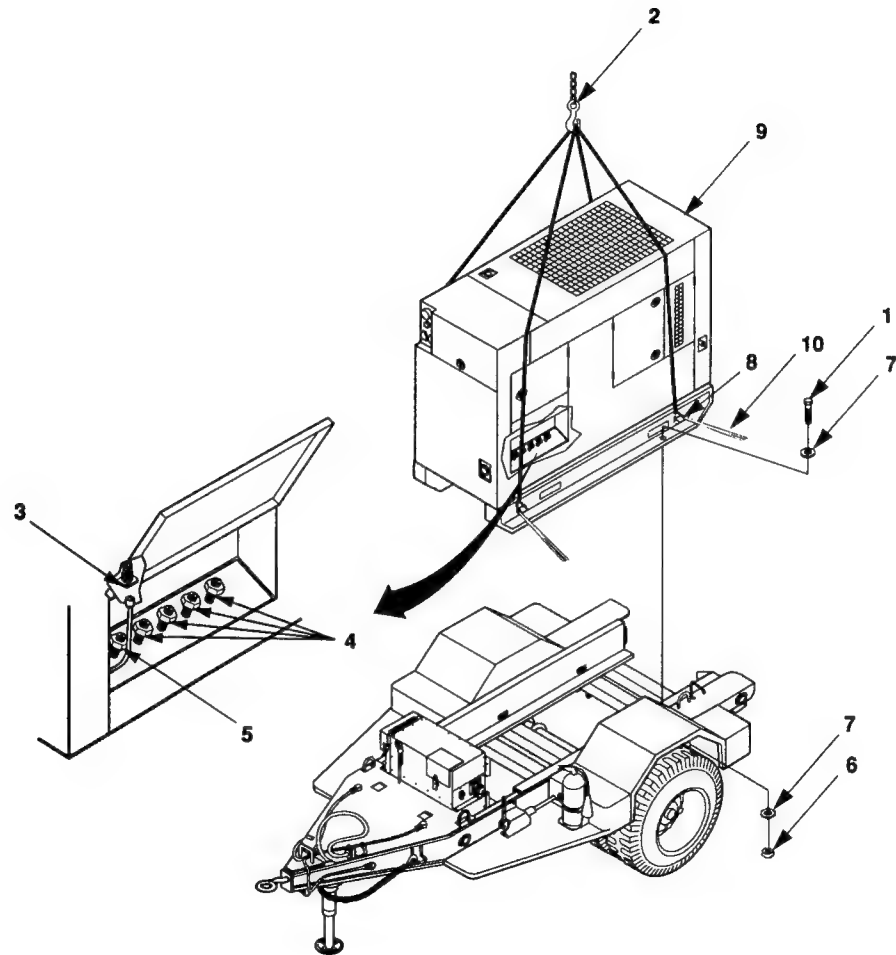

Figure 5-10. Generator Set Removal
1. When removing the generator set from unit A of the power plant, disconnect P1 (3, Figure 5-10) from generator set.
2. Loosen GND terminal of generator set and disconnect ground cable (5) from the generator set.
3. Remove the four screws (1), eight flat washers (7), and four self-locking nuts (6) securing the generator set to the trailer.
4. Insert ropes (10) through each of four Ming rings (8) on the generator set as shown in figure 5-10
5. With one person at each rope (10) to steady and guide generator set (9), lift generator set.
1. Attach lifting equipment (2) with a minimum lifting capacity of 6000 lb as shown in figure 5-10
2. Insert rope (10) through four lifting rings (8) on generator set (9).
3. With one person at each rope (10) to steady and guide the generator set (9), lift the generator set.
5. Install four screws (1), eight flat washers (7), and four new self-locking nuts (6) that secure generator set (9).
6. Disconnect lifting equipment (2).
7. Route ground cable (5) through power cable sock on front of generator set (9).
8. Connect ground cable (5) to GND terminal of generator set and tighten nut.
9. Reconnect electrical leads (4) and P1 (3) to generator set when installing generator set on unit A